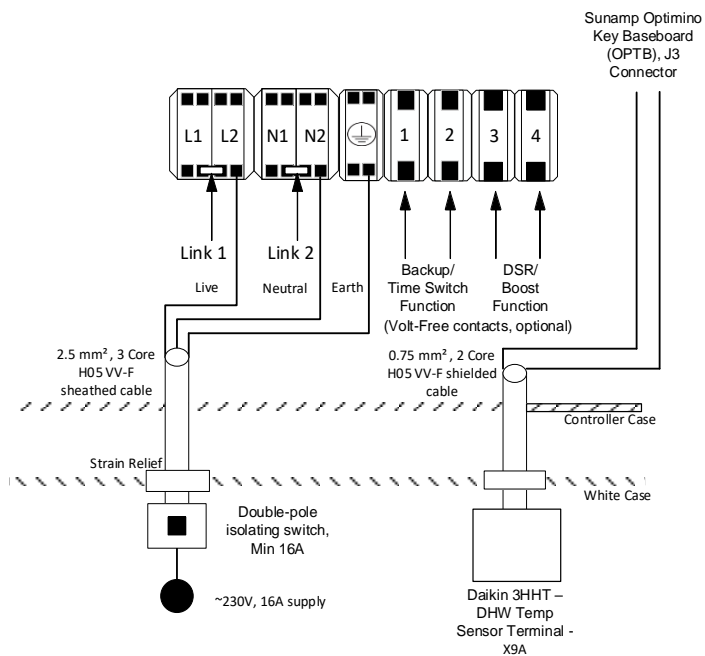

Figure DN.1 - Thermino xPlus with DN01 Optimino Key
- Thermino xPlus with the “DN01” & “DN02” Optimino Keys (D0084 – Section 6.3.2 for wiring instructions & Figure DN.1 below)
Optimino Board J3, please see Figures DN.1 & DN.2 below for reference.